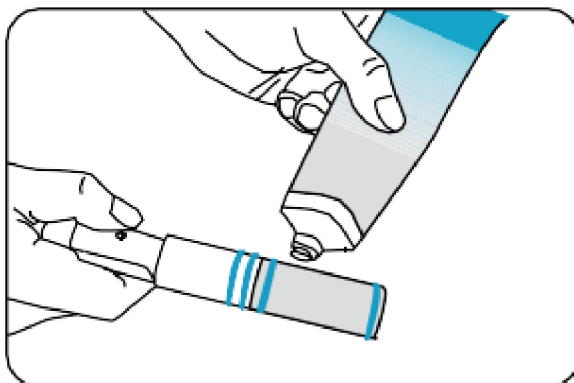

Figure 5-3
4. Apply food grade lubricant to the O-ring inserted into the draw handle. (See Figure 5-3.)